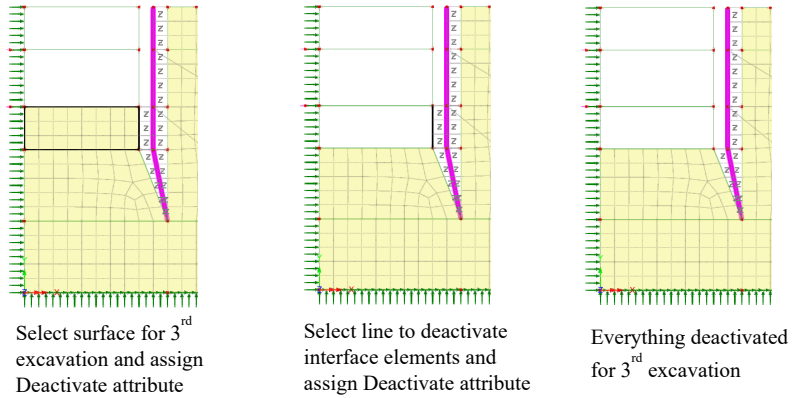

Figure 56: 3rd Excavation
- Select the surface of the third excavation and assign the **Deactivate Elements** attribute **3rd excavation** (figure 56).